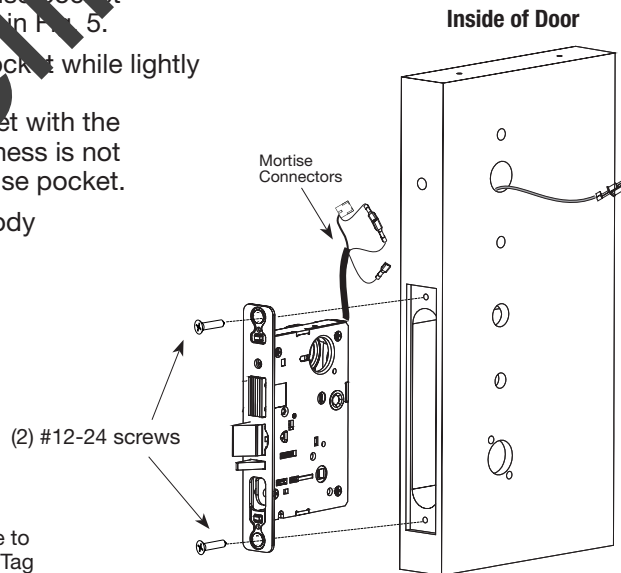

Fig. 5
1. Feed the wire harness through the mortise pocket and inside preparation hole as depicted in Fig. 5.